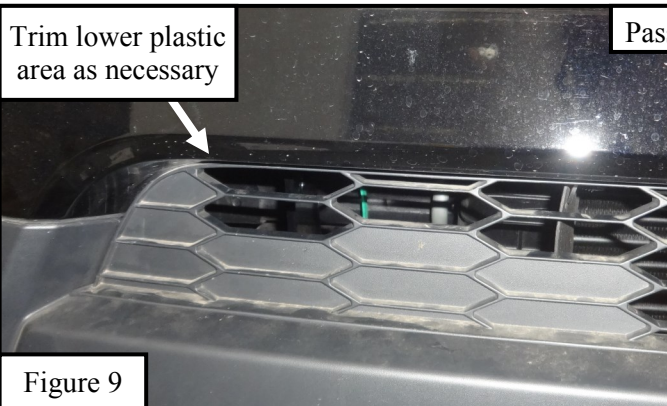

Figure 9
- Trim plastic area as necessary for upper support straps. Refer to **Figure 9 and 10**.